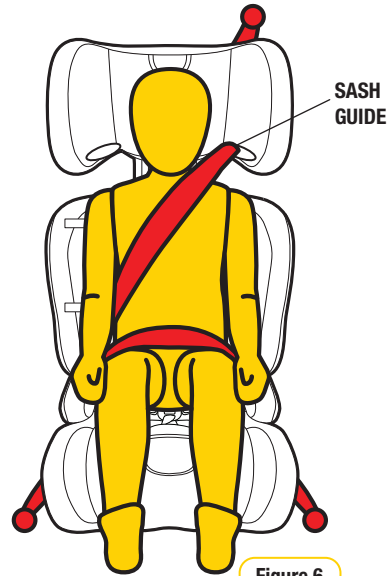

Figure 6
**Step 2:** Adjusting the headrest height to position the sash guide near your child's shoulders to enable the cars seat belt sash to be in the correct position (refer Figure 6)(see using Lap-Sash seat belt pages 29-31).
**Step 7:** Pass the shoulder belt through the belt sash guide (refer Figure 6) which is moulded in the side wings of the headrest. Ensure the headrest is positioned as per “Adjusting the Headrest” (see Page 28).